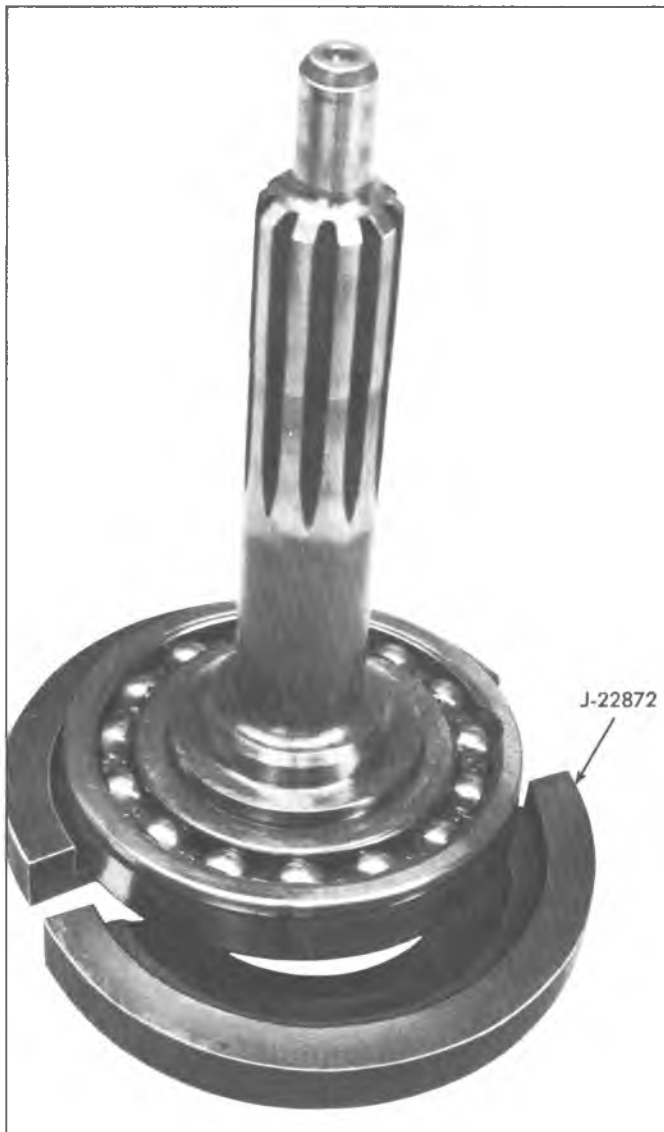
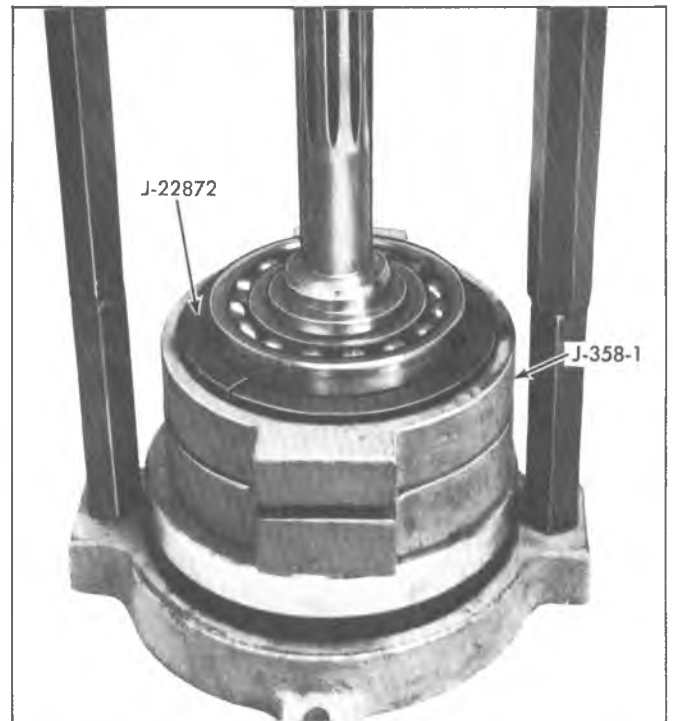

Fig. 9Q--Positioning Tool J-22872 to Drive Gear
Fig. 10Q--Removing Drive Gear Bearing
1. Remove mainshaft pilot bearing rollers (17) from clutch gear if not already removed, and remove roller retainer. Do not remove snap ring on inside of clutch gear.
3. To remove bearing, position Tool J-22872 to the bearing (fig. 9Q) and using an arbor press and Tool J-0358 press gear and shaft out of bearing (fig. 10Q).